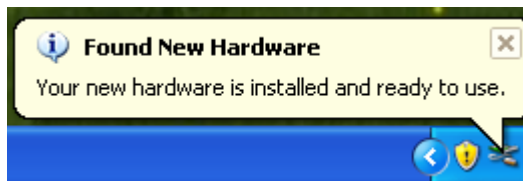

Figure 23: New Hardware Installed and Ready to Use
10.	Click the FINISH button and a “found new hardware” message will appear on the lower right side of the screen, as shown in Figure 23.